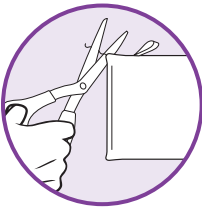

fig. 31
- 2 If there are loose threads on the micro-fiber cleaning pad carefully cut the thread with scissors. Do not pull on them or cut at the base. (fig. 31)